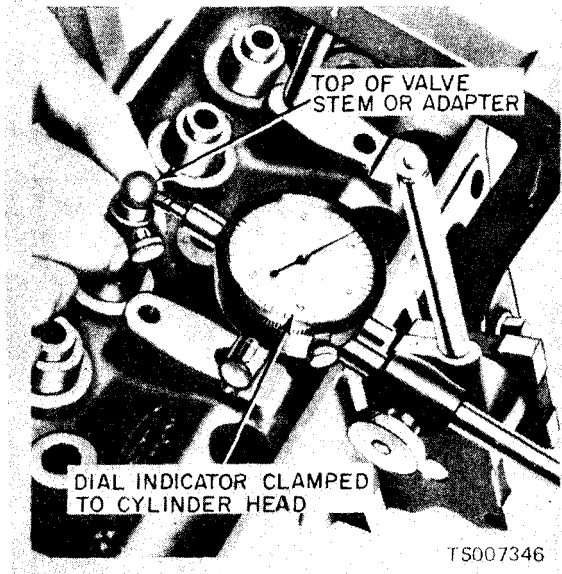

Figure 6-17. Checking Valve Stem Clearance.
(1) Inspect the valve face and the edge of the head for pits, grooves, or scoring.
(2) Check the stem for straightness and for cracks or grooves and scoring around the lock area.
(3) Check the head of the valve for burning or erosion, cupping, warpage or cracks. While minor pits or grooves may be removed during refacing, badly damaged valves should be replaced.
(4) Check the valve face runout. It should not exceed the specified wear limit. If the runout exceeds 0.002 inches, the valve should be replaced or refaced.
(5) Check the valve stem to valve guide clearance of each valve in its respective valve guide with a dial indicator as shown in figure 6-17. Use a flat end indicator point. Clearance should not exceed 0.0010 to 0.0027 for new valves. Maximum wear limit for valves in service is 0.0055.